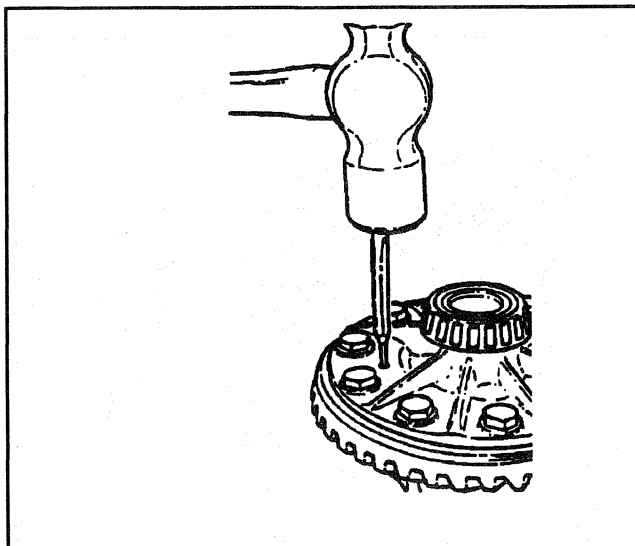

Figure 22—Removing the Pin (K1, 2 Models)
36. Pin (K1 and K2 models). Drive out with a drift and hammer (Figure 22).